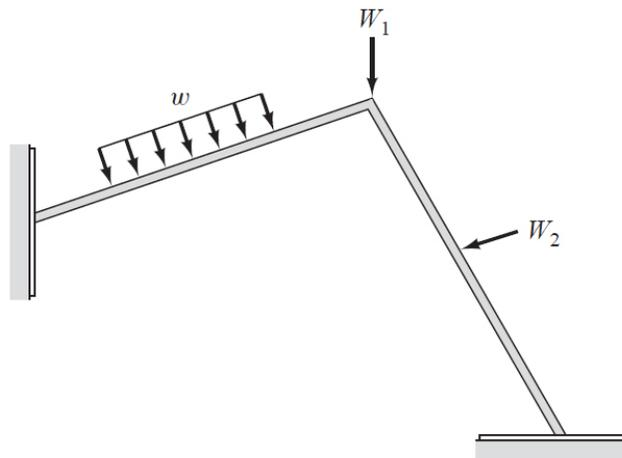

Figure 31. Example plane frame with arbitrary loading at nodes and along member lengths.
- 2) Consider the example plane frame illustrated in Figure 31.